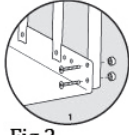

Fig.2
1. Insert the left handle (4) into the left frame (2) and the right handle (5) into the right frame (3).
2. Attach the fixed plate (1) to the left and right frame with the nuts and bolts provided. See figure 2.